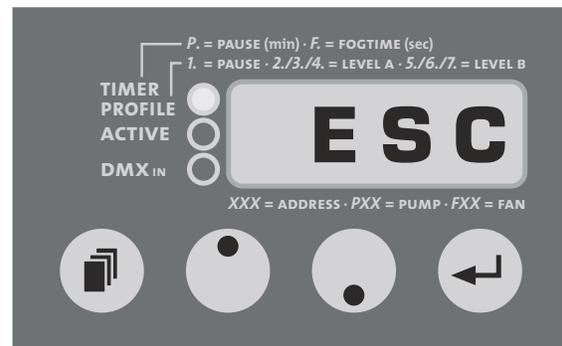

Fig. 9: Quit the profile
- e) To leave the HDCS menu or quit the Profile, first press the Mode button until „ESC“ appears on the display (Fig. 9). Then press the Enter button [16] once to return to the main menu.